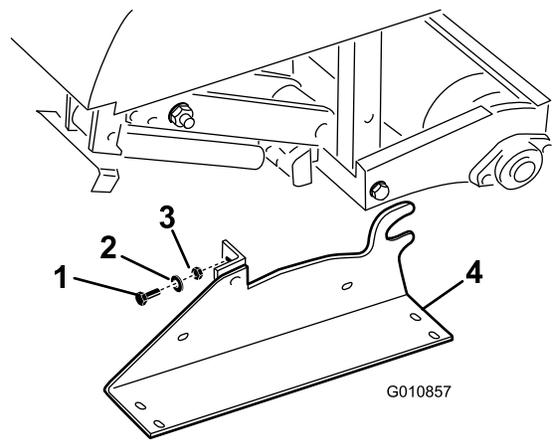

Figure 32
2. Remove the bolts, lock washers and nuts securing the storage stands to each end of the aerator (Figure 32).